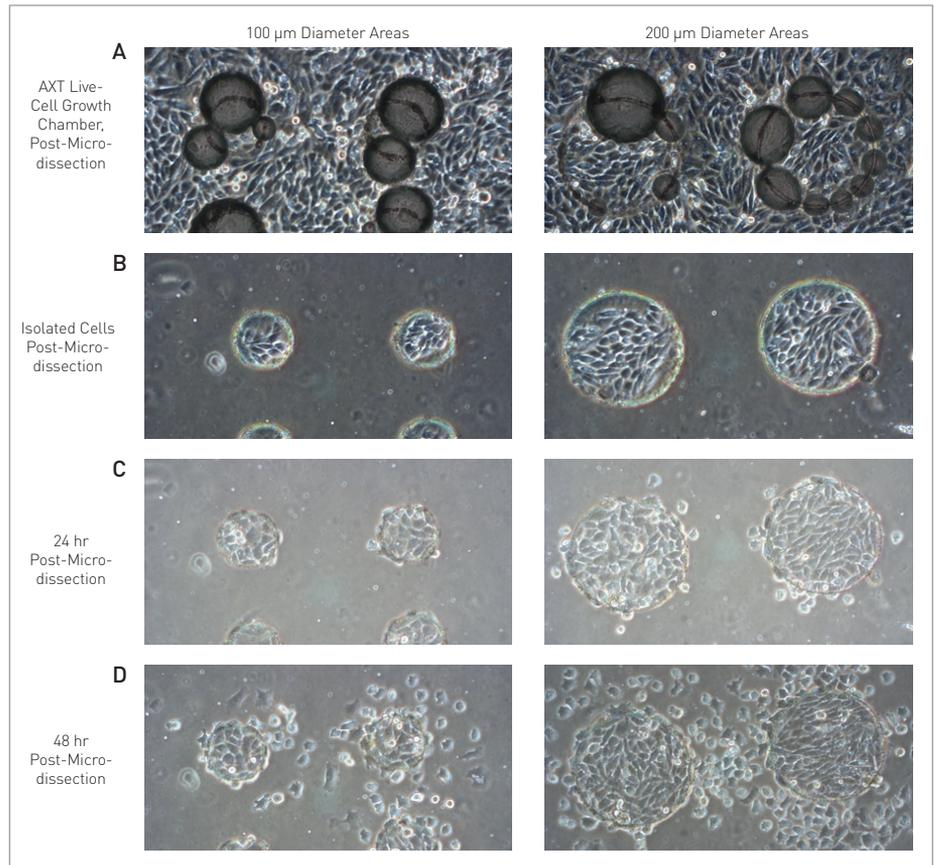

Figure 6. Arcturus^{x7™} Instrument Laser Microdissection of Live Cells.
12. Replace the Arcturus^{XTM} Microdissection Petri Dish lid and verify that the microdissected areas have attached to the bottom of the dish by using an inverted tissue culture microscope or by taking it back to the Arcturus^{XTM} Microdissection System for inspection (Figure 6).